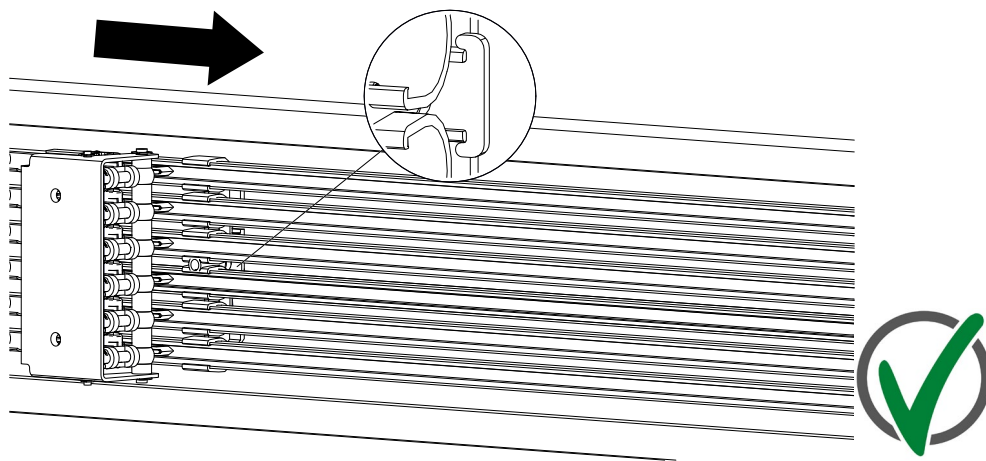

Fig. 48: Insert is mounted in the travel direction of the current collector
For systems that are operated in towing mode, Conductix-Wampller recommends mounting the insert (1) in the preferred direction of travel of the current collector (see Fig. 48)!